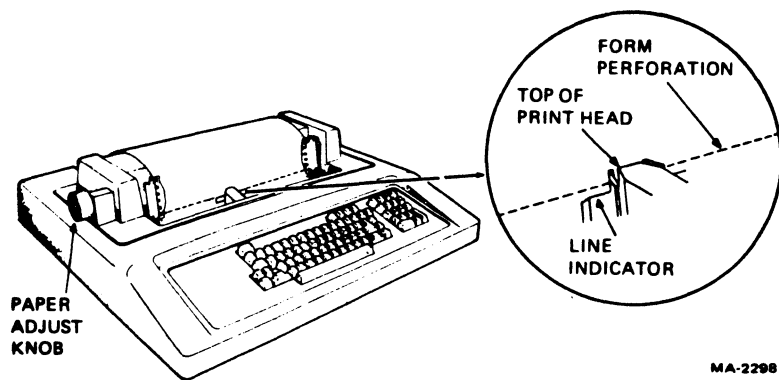

Figure 5-5 Setting Top-of-Form on LA120
9. Set top-of-form (Figure 5-5). Press and hold the SETUP key and press the number 4 (TOF) key to reset the line counter to 1. Using the paper adjust knob, set the paper perforation one character height above the line indicator on the print head. The paper adjust knob is pushed in to make fine vertical adjustments.